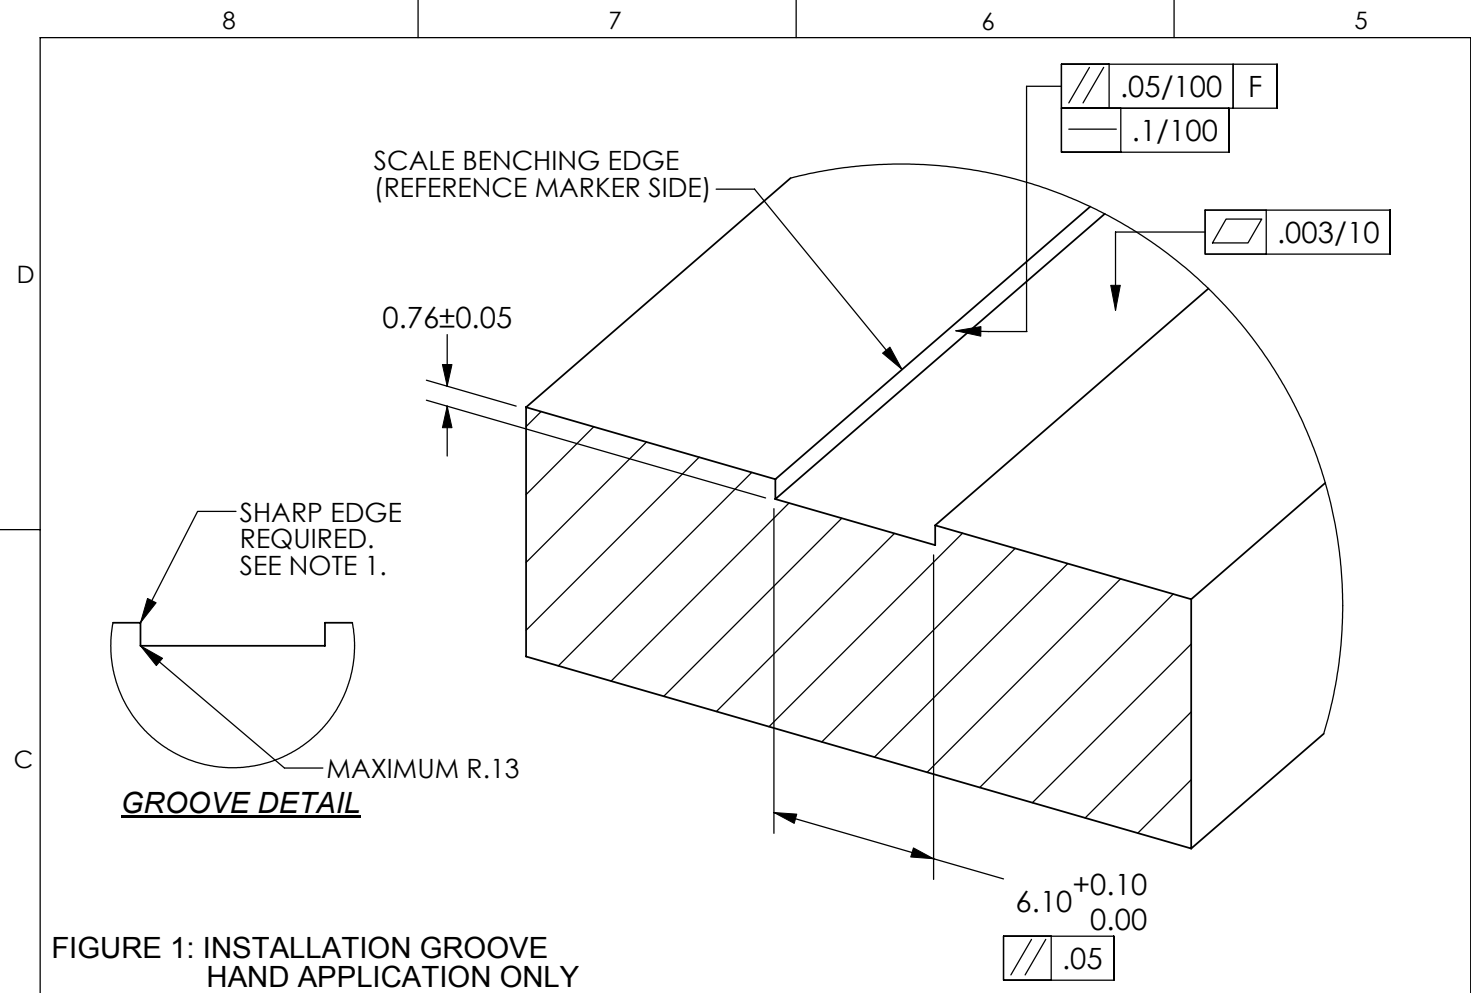
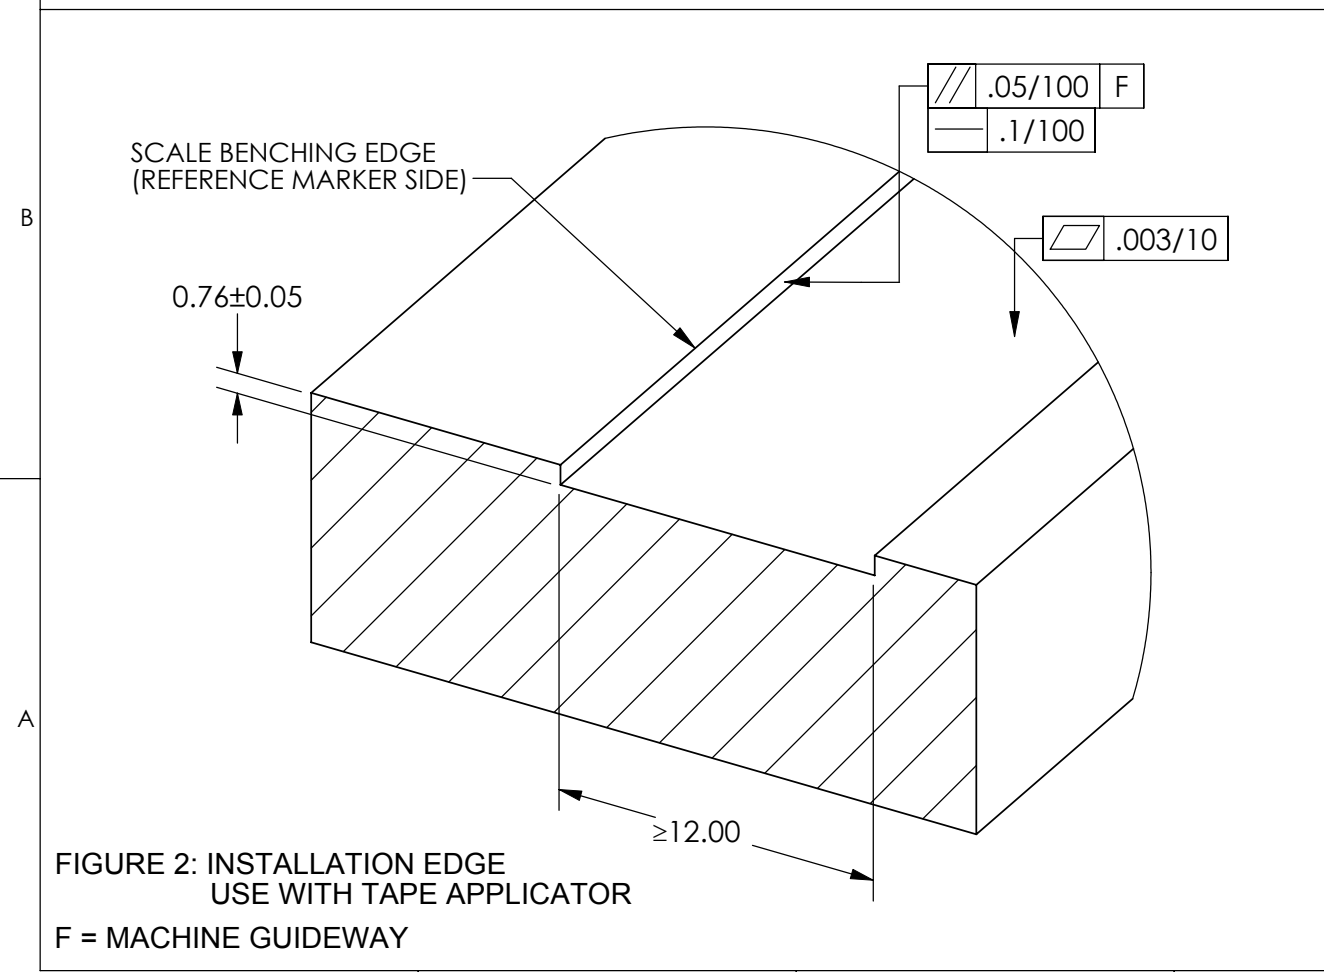
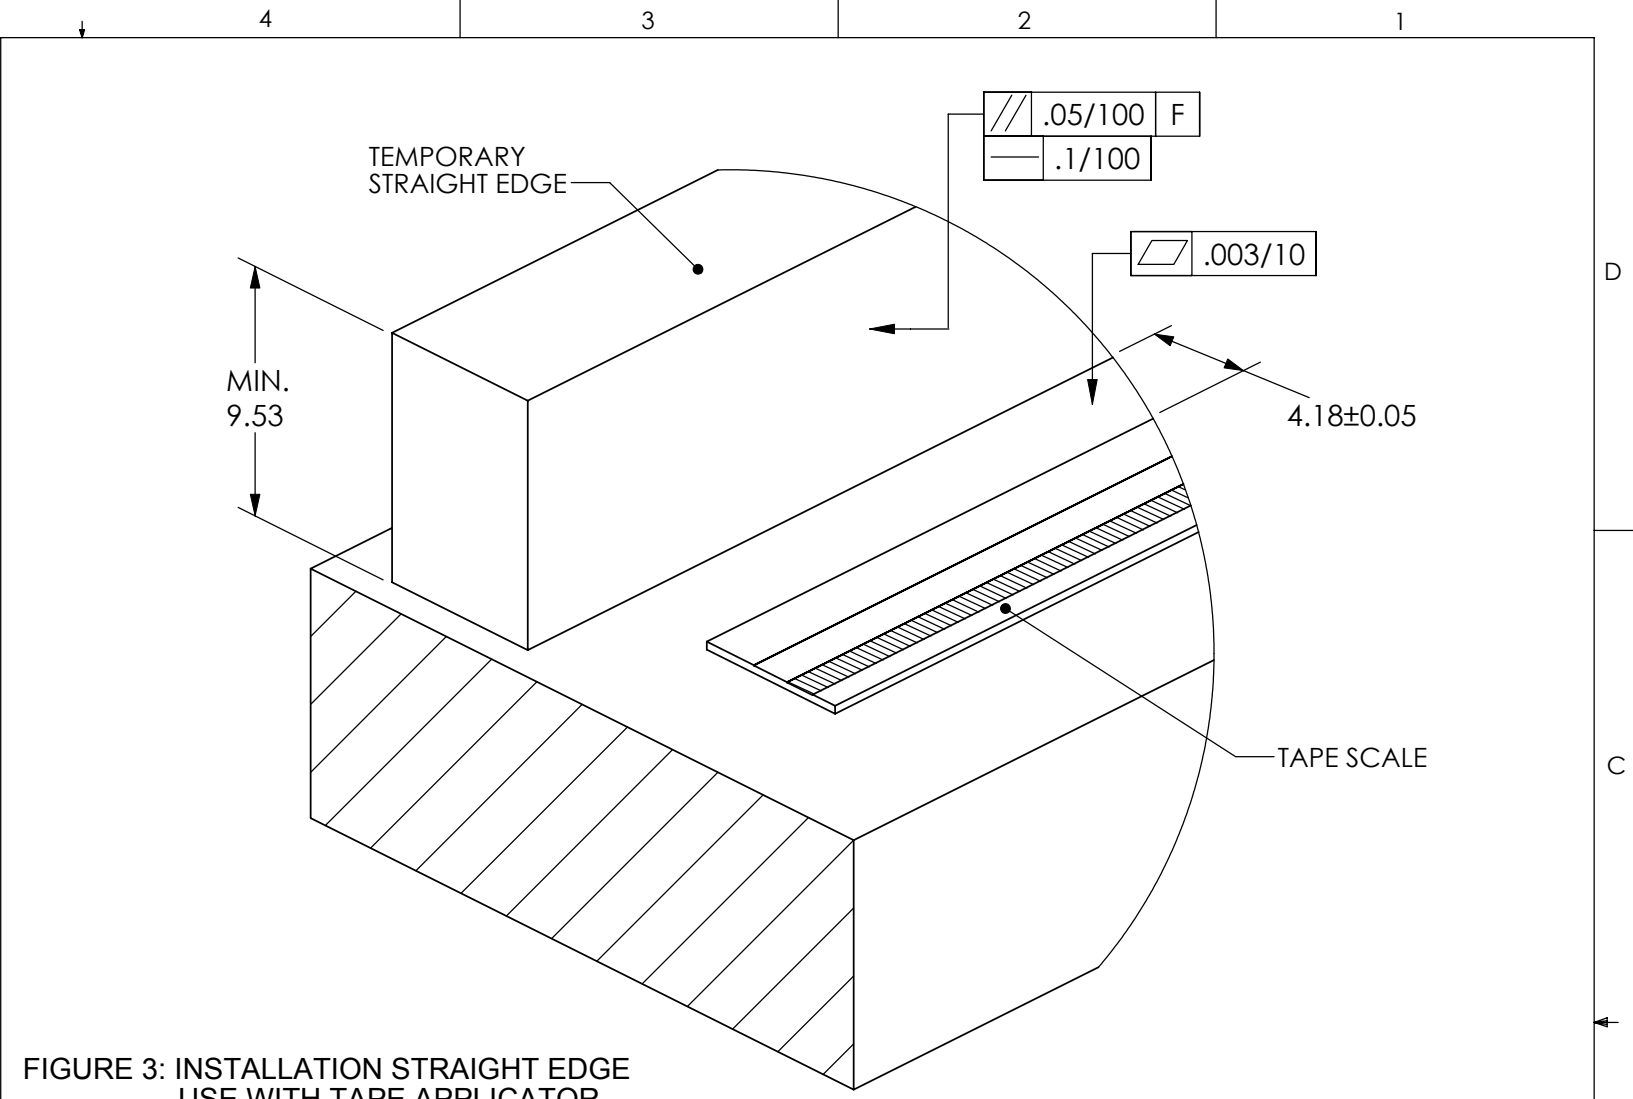

FIGURE 1: INSTALLATION GROOVE
FIGURE 2: INSTALLATION EDGE
FIGURE 3: INSTALLATION STRAIGHT EDGE
3. THE INSTALLATION METHOD SHOWN IN FIGURE 1 SHOULD INVOLVE HAND INSTALLATIONS ONLY. THE APPLICATOR TOOL IS NOT COMPATIBLE WITH THIS METHOD. IN ADDITION END CAPS CANNOT BE USED WITH THIS METHOD.
4. FOR APPLICATIONS WHERE MACHINING THE MOUNTING SURFACE IS NOT DESIRED, A TEMPORARY STRAIGHTEDGE CAN BE USED. A STAINLESS STEEL RULE MAY BE USED AS IN FIGURE 2 IF THE RULE MEETS THE THICKNESS REQUIREMENT. OTHERWISE, THE TEMPORARY STRAIGHTEDGE MAY BE USED AS SHOWN IN FIGURE 3.
5. IN FIGURE 3, THE OUTSIDE REFERENCE SURFACE OF THE TOOL SLIDES AGAINST THE TEMPORARY EDGE, AND THE TAPE SCALE IS THEREFORE OFFSET FROM THE EDGE AS SHOWN. IF THIS OFFSET IS TOO SMALL FOR THE APPLICATION, THE CUSTOMER MAY DESIRE TO CREATE A SPACER THAT CAN ATTACH TO THE OUTSIDE SURFACE OF THE TOOL. PLEASE SEE INSTRUCTION MANUAL FOR DETAILS.
6. IN FIGURES 1 AND 2, THE SCALE BENCHING EDGE IS INTENDED TO AID THE INSTALLATION OF REFERENCE MARKERS. FOR APPLICATIONS SUCH AS IN FIGURE 3, THE CUSTOMER MAY USE A TEMPORARY BENCHING SURFACE TO INSURE THE PROPER INSTALLATION OF THE REFERENCE MARKERS. PLEASE SEE INSTRUCTION MANUAL FOR DETAILS. THE EDGE OF THE GROOVE OR STRAIGHTEDGE MUST BE SHARP ON BENCHING SIDE IN ORDER FOR APPLICATOR TO USE AS A GUIDE. IN ORDER FOR THE TAPE SCALE TO MOUNT CLOSE TO THIS EDGE, A MAXIMUM RADIUS OF .13 SHOULD BE USED WHERE THE EDGE MEETS THE BOTTOM OF THE MOUNTING SURFACE.